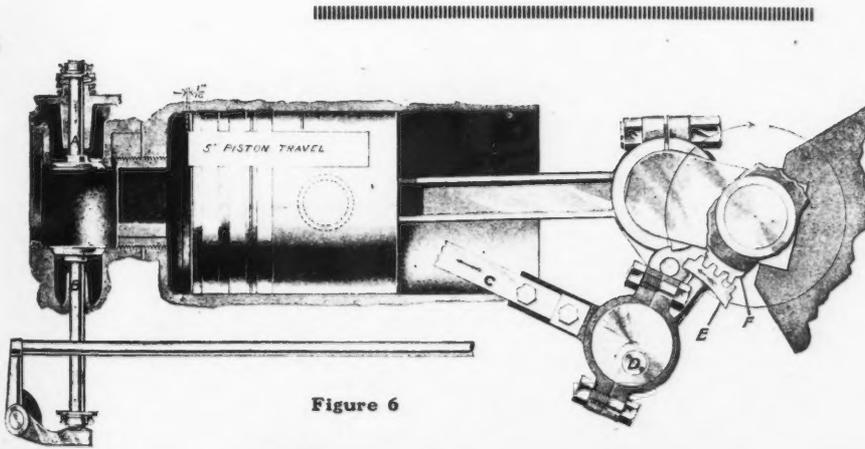
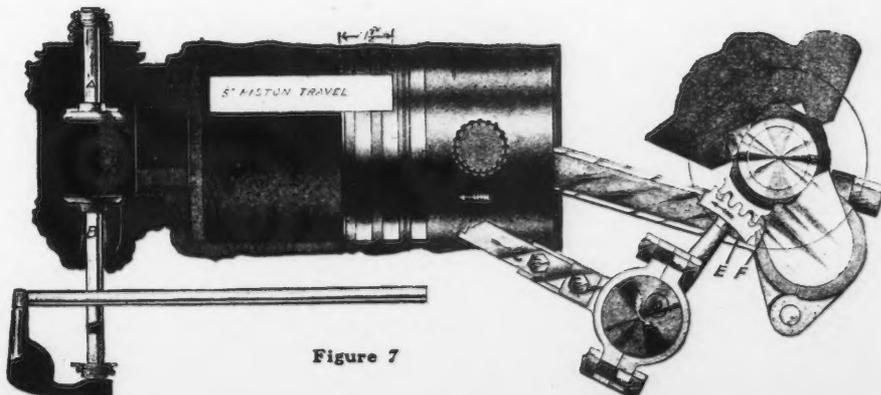
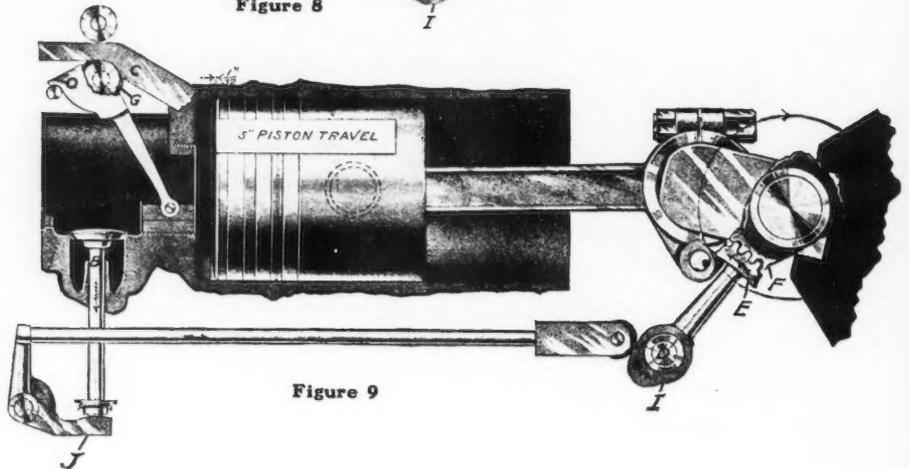

Figure 6
Figure 7
Figure 9
The following is an explanation of our four cycle motor. The cuts (Figs. 6, 7, 8, and 9, pages 16 and 17) show the correct timing of the valves. The same letters refer to the same parts in the different cuts. The piston travel indicated by the white space shown on cylinder is five inches.
Fig. 6 shows the beginning of the first or suction stroke of the cycle. At $1/16$ inch past the center the inlet valve (A) commences to open, which allows the vapor supplied by the carburetor (Fig. 10) to be drawn into the cylinder, the motor running as indicated by arrows. During this stroke the exhaust valve (B, Fig. 6) is closed. The inlet valve (A) is opened by the eccentric rod (C), its movement being controlled by the eccentric on the secondary shaft (D). This shaft is driven one-half the speed of the motor by the two to one gear (E) and pinion (F).
Fig. 7 illustrates the beginning of the second or compression stroke at the closing point of the inlet valve, both valves being closed during this stroke.
Fig. 9 shows the position when the exhaust valve (B) has just closed just $1/32$ inch past the dead center. The inlet valve (A) will open $1/32$ inch later, admitting new vapor as in Fig. 1.
To set the valves after the shaft has been removed, proceed as follows: First, turn the crank shaft so that the center of the crank pin will be in the same horizontal plane with the center of the crank shaft, having the crank pin at the same time extending back toward the cylinder of the motor. By referring to Fig. 9 on page 17, you will see that the crank pin is in very nearly the position suggested above; although the crank pin must be dropped a little lower than shown on the cut, to bring its center in the same horizontal plane as the center of the crank shaft. Then mesh the valve gears so that the commutator key, which is in the end of the commutator shaft, will be in a vertical position, and will point either directly up, or directly down, when the crank pin bears the relation to the crank shaft above specified. Use special care to make
open and down as it would be when the throttle is wide open. Turn the fly wheel in the direction the motor runs until the inlet lever roll (S, Fig. 10, page 20) begins to bear on the inlet push rod. (C, Fig. 9, page 17). Insert the fingers in the spark plug hole and see that the inlet valve is not off its seat. The inlet push rod at the least movement of the fly wheel will now start to open the inlet valve. However, stop in this position and, if the engine is new, you will find the inlet valve opening $1/16$ of an inch past center as indicated in Fig. 6, page 16. To measure this distance, insert a rule and turn the fly wheel backwards, noting the distance the piston pushed the rule outward. This will be the time the inlet valve opens after the piston has passed the center. An engine that has been run for some time will probably open $1/8$ or $3/16$ past center. An engine in this condition would be considered out of time. The closing of an inlet valve is determined by turning the engine forward making sure that you are again holding the inlet lever down and open as above. Turn the fly wheel forward until the inlet lever roll begins to loosen, but is still contracting on the inlet push rod. Make sure that your valve is closed; try again to twist the inlet valve, which should be on its seat. This we term the closing of the inlet valve, and on a new engine would be $1/2$ inch past center (Fig. 7, page 16).
center that the inlet valve is closing. When the cam shaft is set correctly, an inlet valve that is out of time will open late and close early. Both of these errors may be corrected by removing the two screws, clip and shim in push rod C, Fig. 6. In all probability you will have to elongate the holes in the push rod in order that it may be pushed up slightly to produce the original timing of the inlet valve. After elongating the holes it will be necessary to make a new shim by filing down a piece of one-quarter inch square stock. One hundredth or one sixty-fourth of an inch is usually enough to put the valve in proper time. One who is familiar with the setting of a valve can determine the size of shim at once, but a beginner will probably have to make two or three trials.
The speed of the motor is controlled by the cam lever (O), which throws the roller (G, Figs. 9 and 10) farther under, the lever (C) giving the roller (S) on lever (T, Fig. 10) more or less throw, thus giving valve (A) more or less opening, admitting a greater or less amount of gasoline and air.